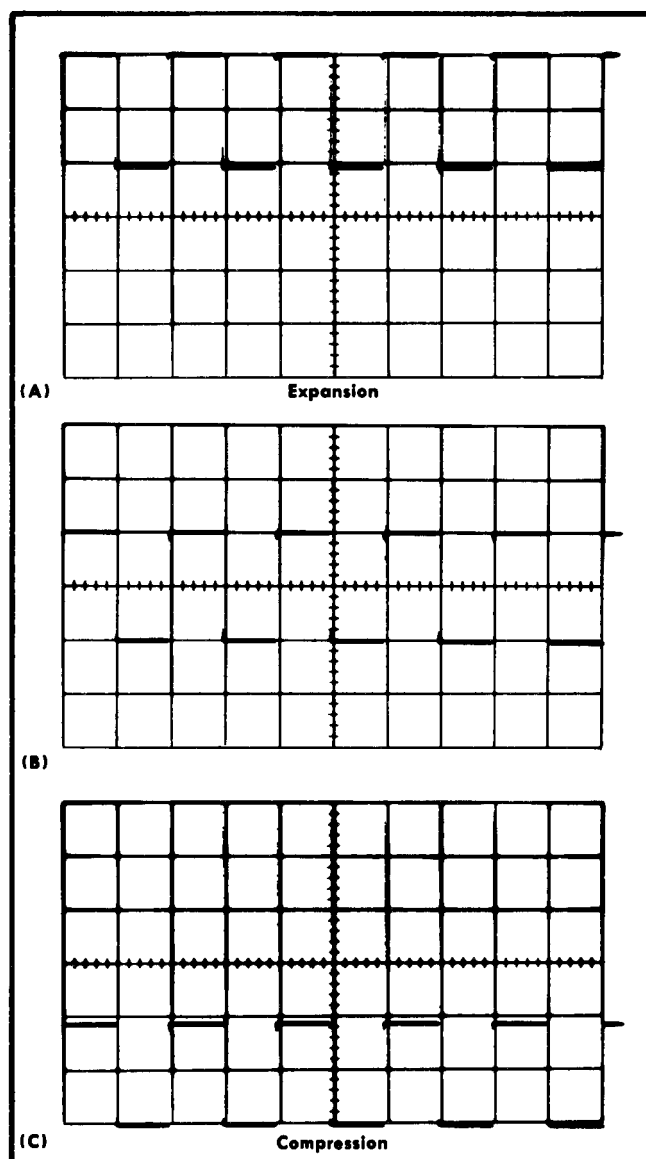

Fig. 5-4. Typical CRT display showing acceptable compression and expansion. (A) Expansion, (B) correct deflection at center of graticule, (C) compression.
- CHECK-Compression or expansion 0.15 division or less (see Fig. 5-4).
- CHECK-Compression or expansion 0.15 divisions or less (see Fig. 5-4).
n. CHECK-Compression or expansion 0.15 division or less (see Fig. 5-4).